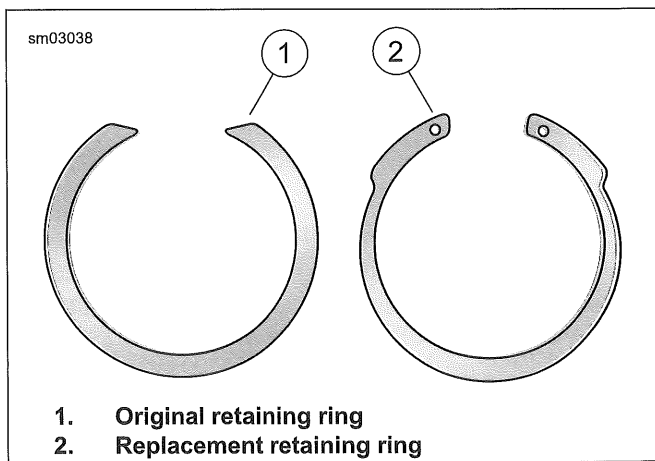

Figure 5-69. Main Drive Gear Retaining Rings
See Figure 5-69. When replacing needle bearings, replace retaining rings (1) with **new** retaining rings (2).